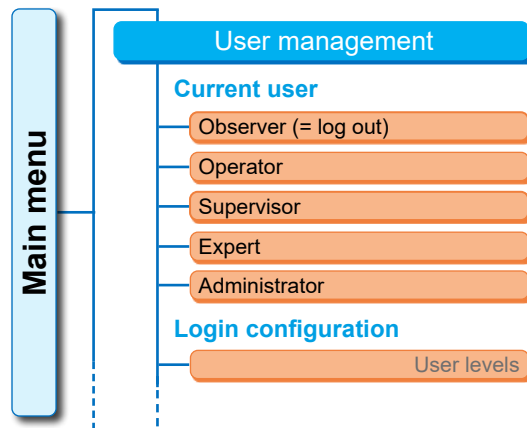

Fig. 1: User management menu
1. Select 'User management' in the main menu. The 'User management' menu opens (fig. 1). The login type is shown under the 'Login configuration' menu item. In our example 'Strong password'.